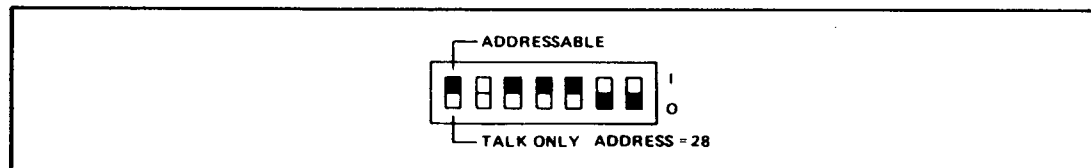

Figure 4-22. Switch Settings for Remote Trigger Level Test
- b. Set the Model 5328B's address switches as shown in Figure 4-22.